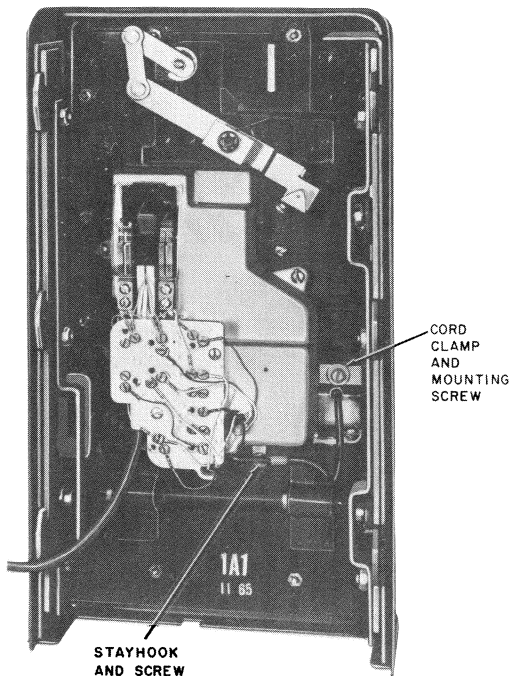

Fig. 18—Location of Armored Cord Mounting Hardware in 1A/1C-Type Coin Telephone Set
- 2.27** Refer to Fig. 18 for routing and securing handset cord in 1-type coin telephone sets.